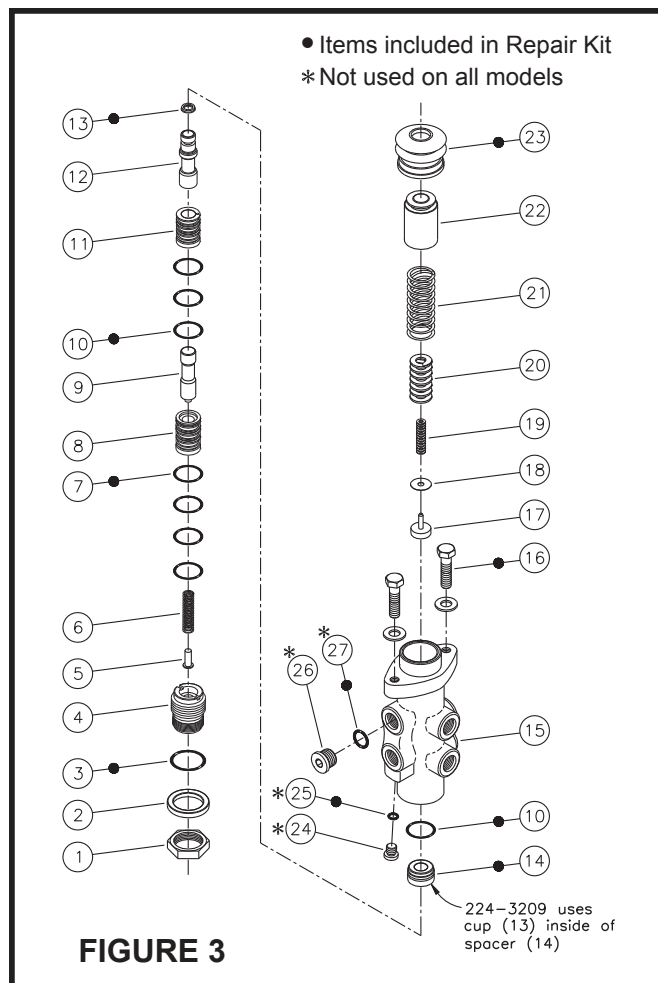

FIGURE 3
This literature services more than one brake valve. Components shown in Figure 3 may appear different than what is found in your brake. Spool (9) and sleeve (8) are a matched set as are spool (12) and sleeve (11) and should not be intermixed with other parts.
2. Remove boot (23) from piston (22).
3. Remove piston (22), springs (19, 20 & 21) and shim(s) (18) from housing bore. **NOTE: Be aware of the number of shim(s) being removed from housing.**